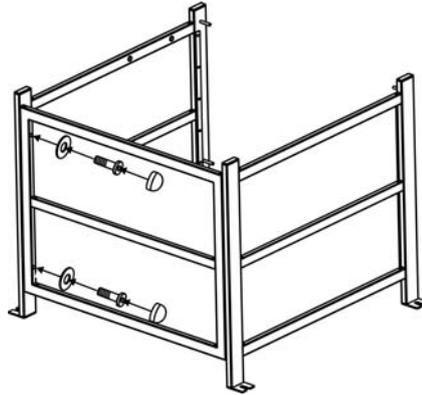

Figure 2
2. Attach the back panel to the side panels by using four 1/4"x40 mm bolts and Ø6.5x1.0 mm washers as shown in Figure 2. Guide the bolts through the holes in the back panel, into the pre-drilled holes in the side panels. **Hand tighten only.**